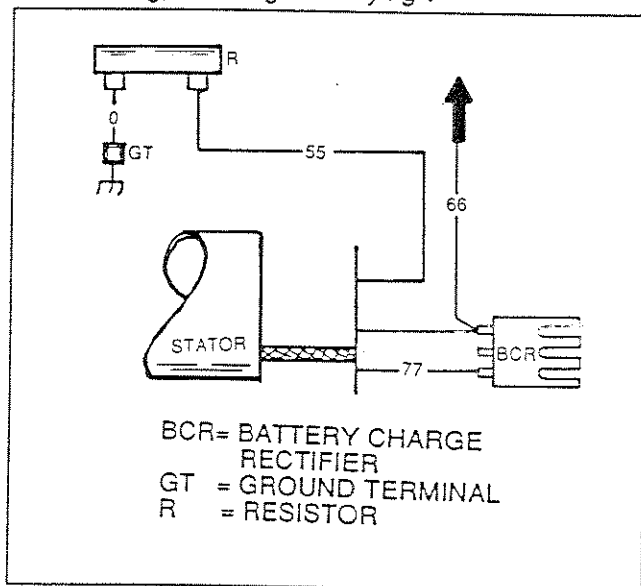

Figure 19. Battery Charge Winding Test Points
1. See Figure 19. Connect an accurate AC frequency meter across Pin #8 of the CMA circuit board connector (to which Wire 66 connects) and the terminal on the battery charge rectifier to which Wire 77 connects.